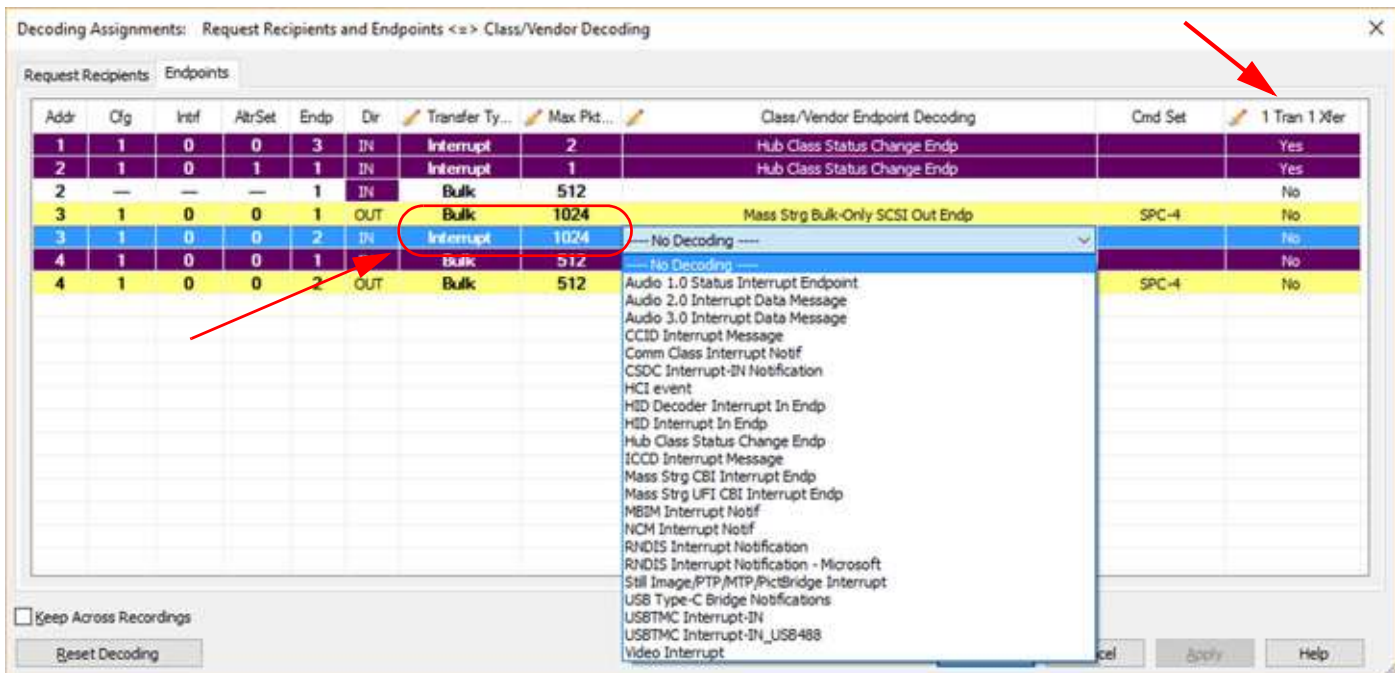

Figure 9.7: 1 Tran 1 Xfer column -> HID Interrupt In Endpoint Decoding
10. Display the **Class/Vendor Endpoint Decoding** drop-down menu for Interrupt IN transfers (see Figure 9.7):
or Isochronous transfers] transfer collection uses a simple rule of “1 transaction 1 transfer”. When this option is set as “yes”, any transaction at selected endpoint will make a transfer level packet which could be decoded by transfer level scripts. In particular, streams of Isochronous data can be decoded MUCH more quickly if this rule is selected. To select this model of transfer, use the “1 Tran 1 Xfer” column to select it (see Figure 9.7 on page 541).